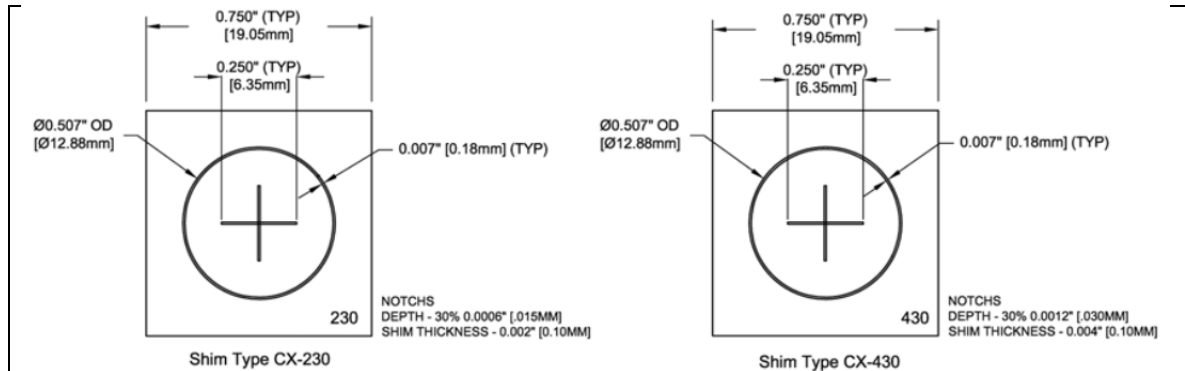
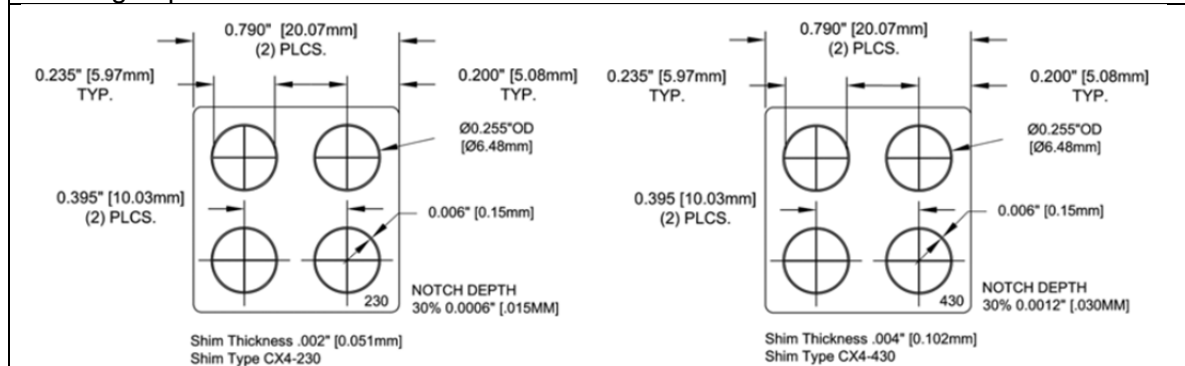

FIG 1:
FIG 3:
- 3.1.2 The QQI's are available in two sizes, 0.75 in. [19 mm] square for Figs. 1 and 2 and 0.79 in. [20 mm] square of Fig. 3. The QQI's of Fig. 3 are cut by the user into four 0.395 in. [10 mm] square shims for use in restricted areas.